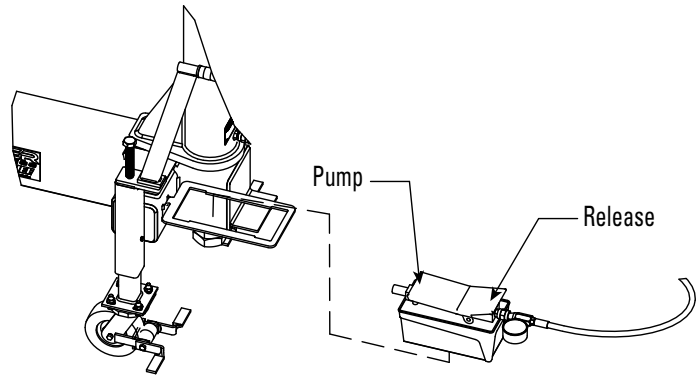

Figure 37
8. Remove the Tower Pump from the Tower Pump Storage Ring (see Figure 37) and position pump away from the tower and out of the direct line of the pull.